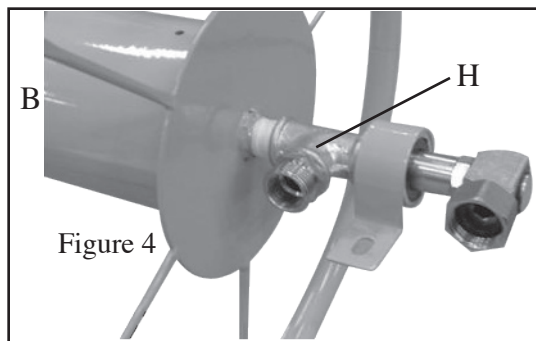

Figure 4
- Screw the Galvanized Tee (H) onto the Spool (B) end. Tighten with wrench firmly. as seen in figure 4. Again, do not over tighten.